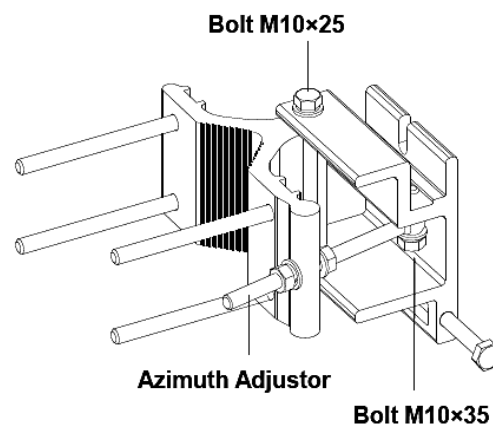

Fig 3.2
**Step2:** Put Azimuth Adjustor in another mounting hole of Y Type Extruded Profile, and then use Bolt M10×35 to fix it to the E Type Extruded Profile (shown in Fig 3.2).